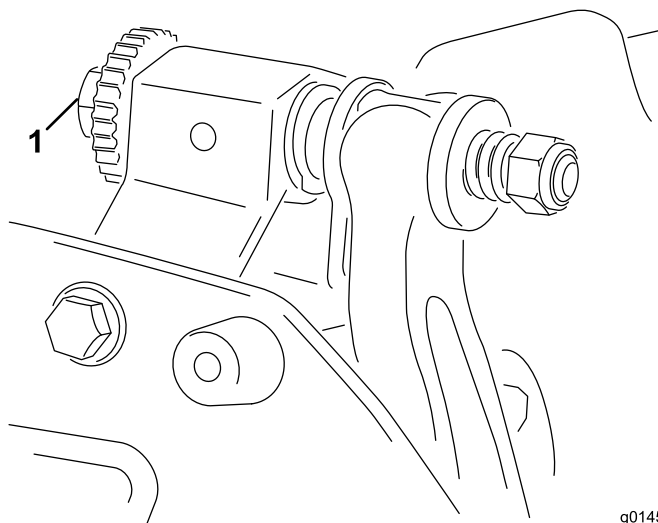

Figure 4
1. Position the cutting unit on a flat, level work surface. Make sure the reel contact is removed by turning the bedbar adjusting screws counterclockwise (Figure 4).